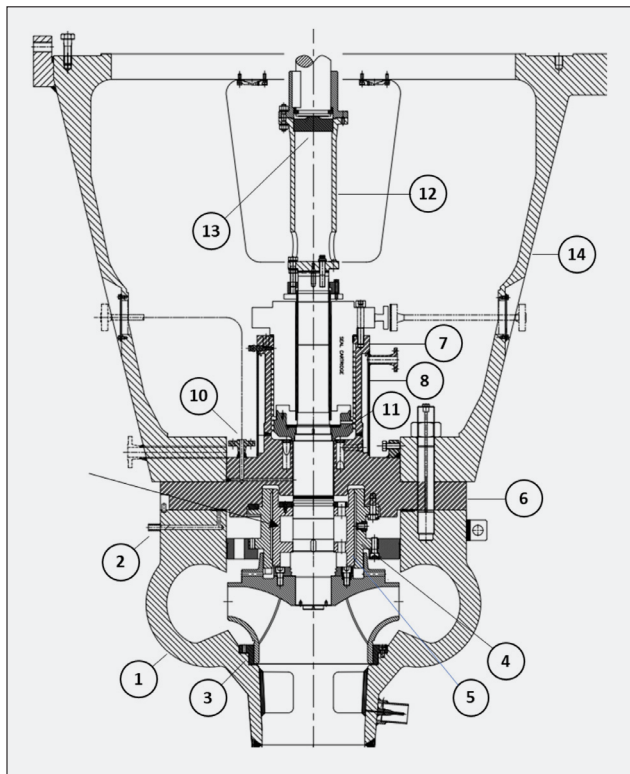

Figure 3: DVSS Pump Sectional Showing Major Components
Figure 3 is a sectional drawing of a typical DVSS pump as used in a PWR or PHWR.
Figure 3 illustrates the seal gland injection connection flange (10) and associated rifle drilling in the cover assembly. Also illustrated are the axial interconnected cooling passages arranged annularly around the shaft just below the bottom of the seal housing. More details on the working of the injection and cooling features are provided below under Mechanical Seal Injection and Cooling.